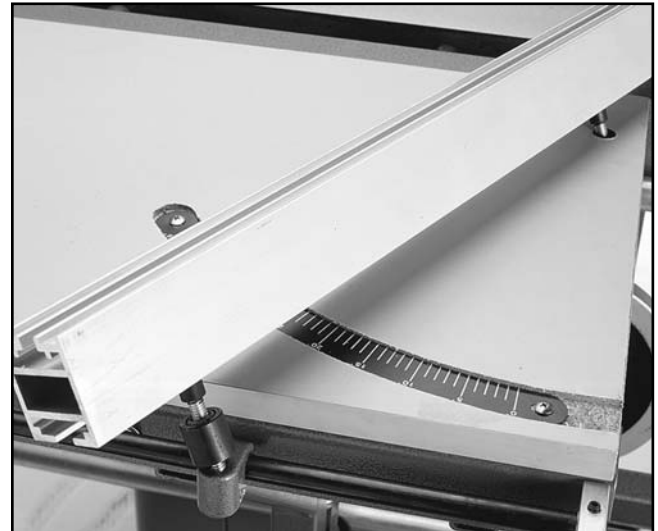

Figure 14. Mounting the fence.
16. Mount the fence by sliding the plastic T-nuts into the bottom of the fence. Insert the short stud into the hole closest to the machine table, the longer stud with spacer goes through the sliding mount. **Figure 14.** Install the lock handles from below.